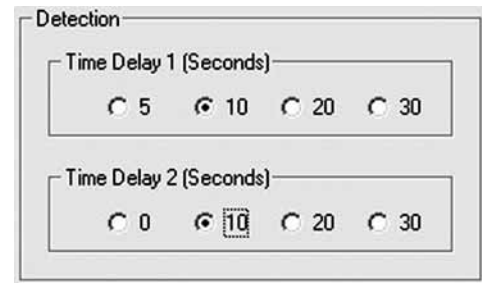

FIGURE 46
4. **Detection - Input Programming:** The Detection area (see Figure 46) provides programming of the two time delays associated with the detection circuit input.